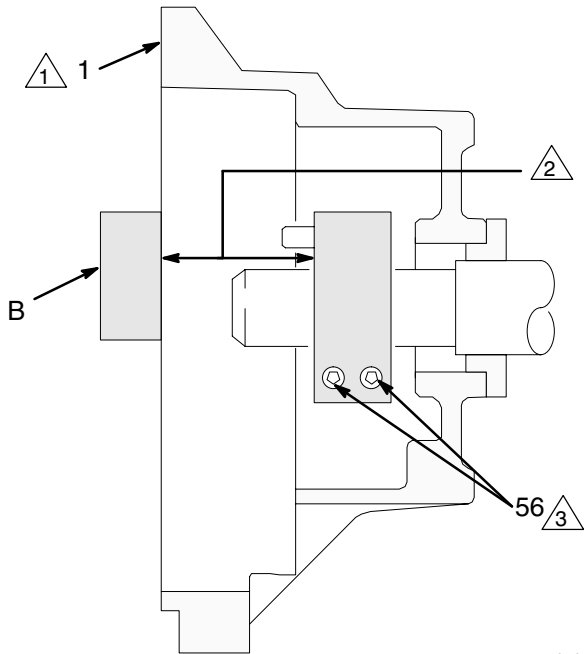

Fig. 24
3. Press the **clamp (55)** onto the engine shaft (A). Maintain the 1.41 inch  $\pm 0.01$  (35.8  $\pm 0.25$  mm) dimension shown in Fig. 24.